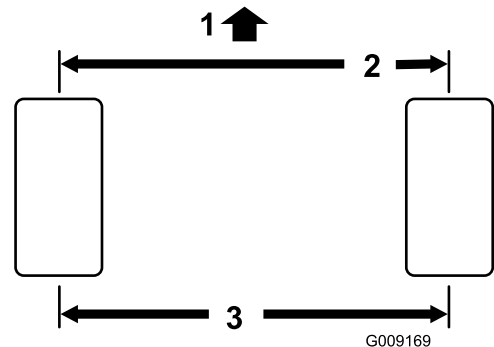

Figure 58
2. Measure the center-to-center distance (at axle height) at the front and rear of the steering tires (Figure 58).